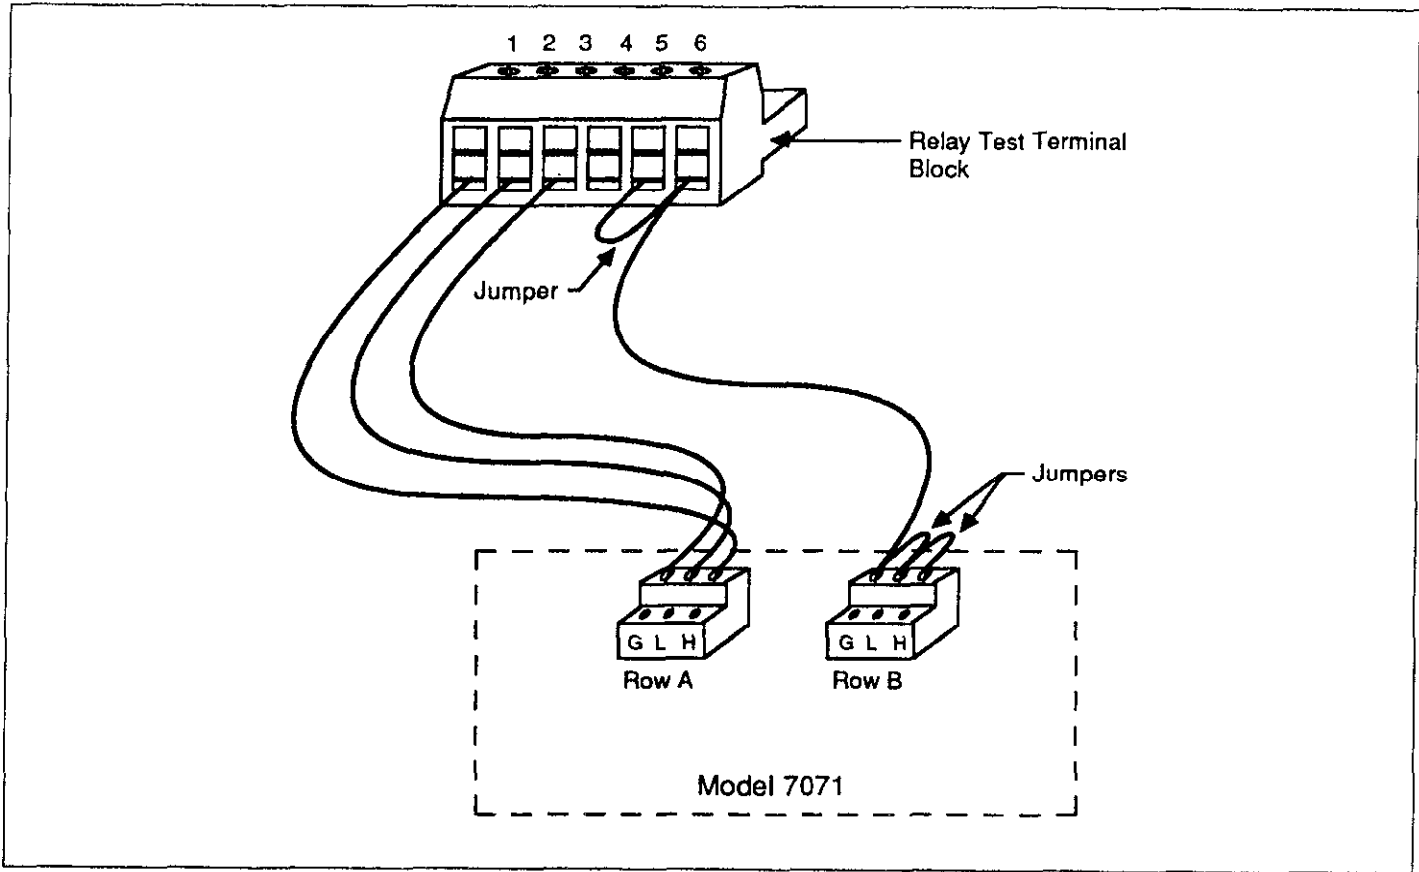

Figure 4-1. Relay Test Setup
- 2. Connect the relay test terminal block to rows A and B of any Model 7071 card installed in the mainframe as shown in Figure 4-1. Note that terminals 5 and 6 of the relay test terminal block must be shorted together. Terminals H, L and G of row B of the Model 7071 must also be shorted together.